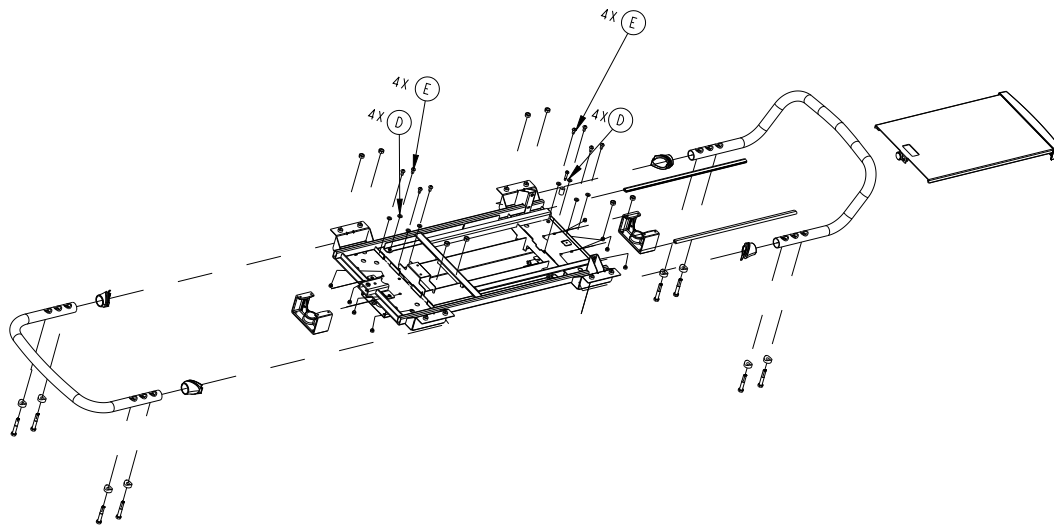

Figure 14 – Top cradle bracket
2. Using a T15 Torx driver, remove the eight screws (E) and washers (D) that secure the columns to the valance brackets (Figure 14). Save the screws and washers.